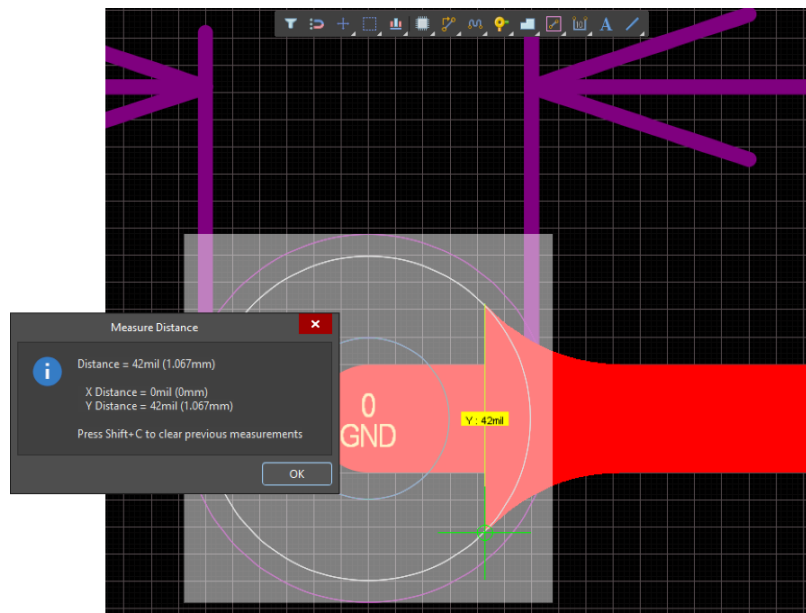

Figure 6. Measuring Teardrop Height
23. The mouse cursor will now turn into a crosshair. Begin selecting the top tip of the arc as your first point and then the bottom tip of the arc as your second click, Figure 6 below. Pressing **Ctrl** during Measure Distance allows you to temporarily deactivate the Snap to Grid, to position the cursor at the top tip and bottom tip of the arc.